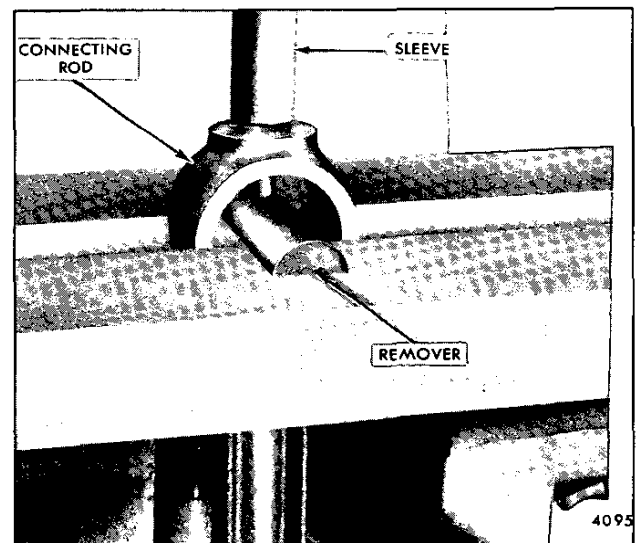

Fig. 5 - Removing Spray Nozzle
3. Support the connecting rod and tool in an arbor press (Fig. 5).